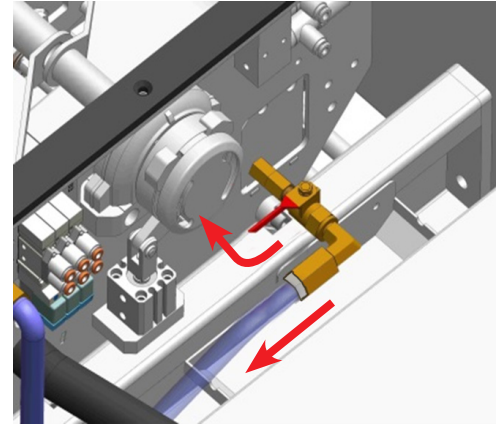

Figure 56: Water Disconnect
3. Turn off flow of water by turning valve until it is perpendicular to flow of water and remove quick-disconnect to allow removal of water pot, (refer to Figure 56).